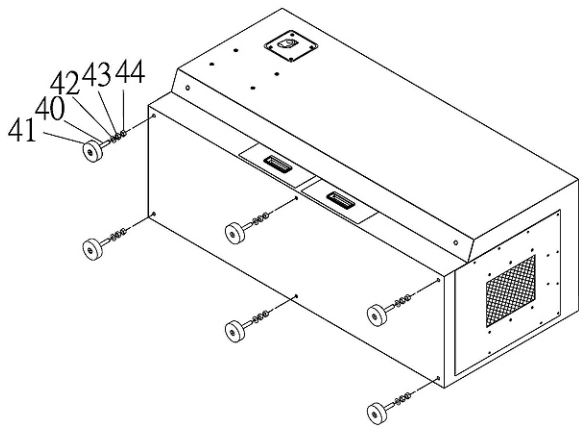

Figure 5-4
3. Install the 6 foot pad assemblies (No. 40 ~ No. 44) into the main housing bottom as shown in (fig. 5-4).